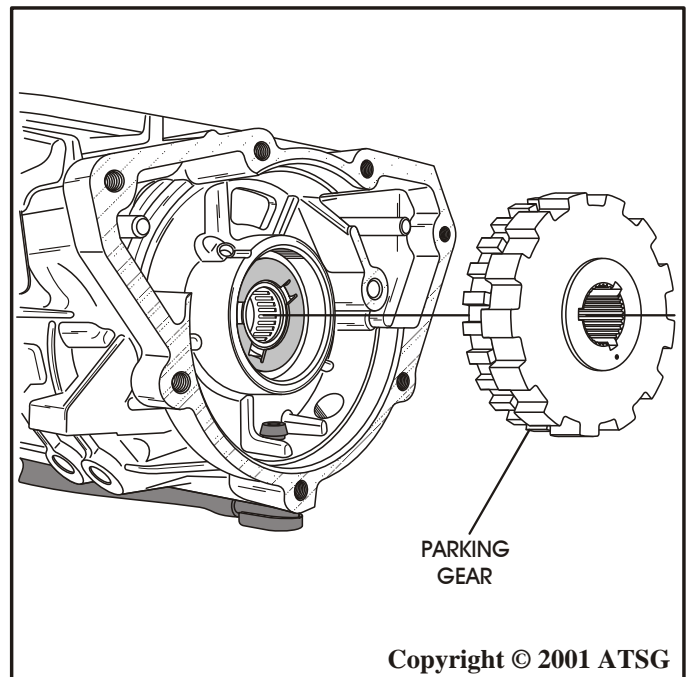

Figure 143
7. Rotate transmission so that the pan surface is facing up, as shown in Figure 143.
8. Ensure the number 11 thrust washer is still in place in rear of case, as shown in Figure 143.
9. Install the parking gear into transmission, as shown in Figure 143.